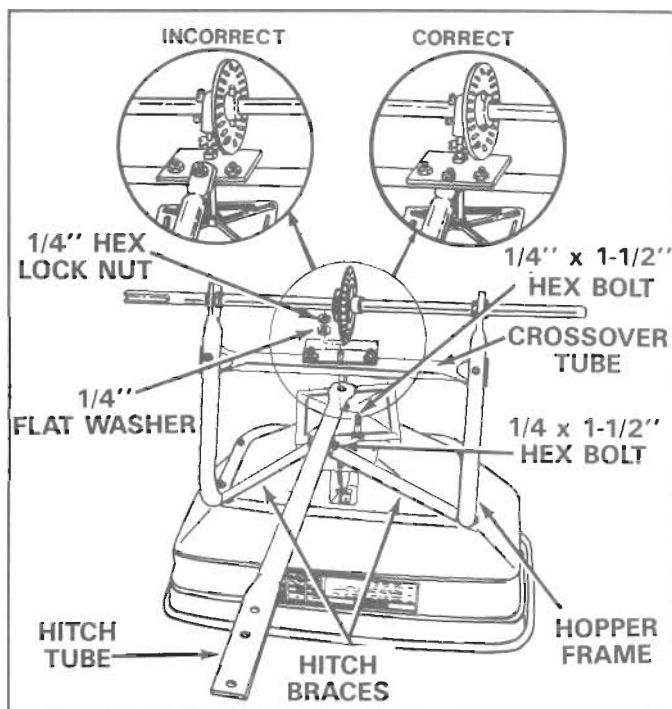

FIGURE 4
4. Assemble two hitch braces to the inside of the hopper frame, one each side, using two 1/4" x 1-1/2" and two 1/4" hex lock nuts. See figure 4. **DO NOT TIGHTEN AT THIS TIME.**
6. Align the holes in the ends of the two hitch braces with the nearest hole in the hitch tube, secure with 1/4" x 1-1/2" hex bolt and 1/4" hex lock nut. See figure 4.